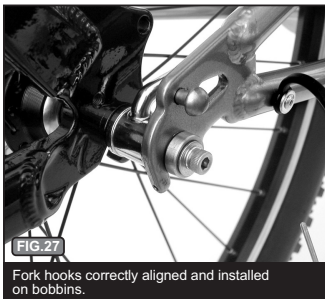

FIG. 27
**E)** Attach the trailer by aligning the slots of the BOBBINS with the slots in the fork hooks. Fig. 27 shows the fork hooks correctly installed on the BOBBINS.